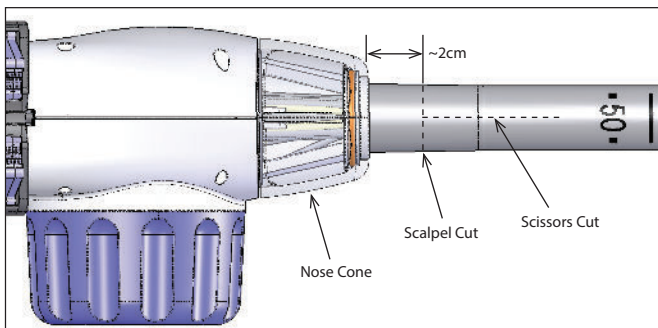

Figure 8
10. Make a complete circumferential cut through the gray outer tube approximately 2 cm distal to the clear nose cone with a scalpel (Figure 8).